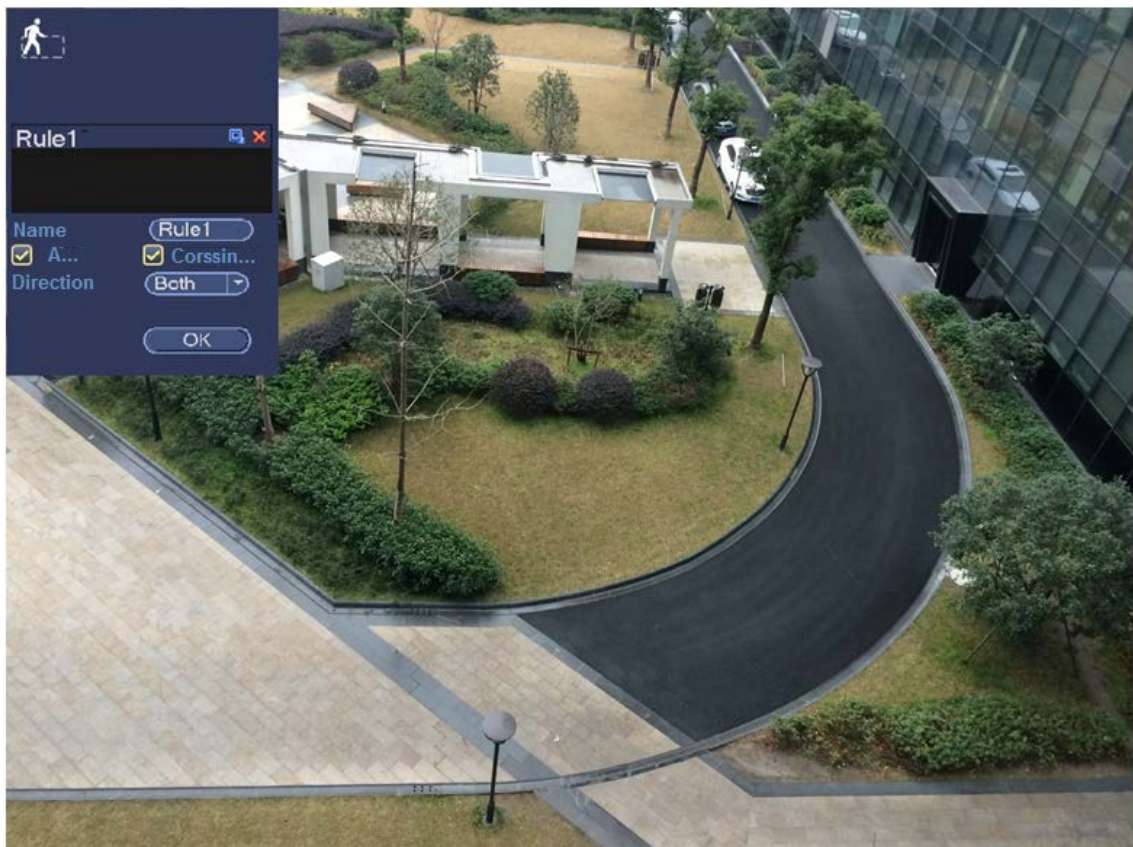

Figure 4-131
- When you select AI by camera, the system displays as Figure 4-131.